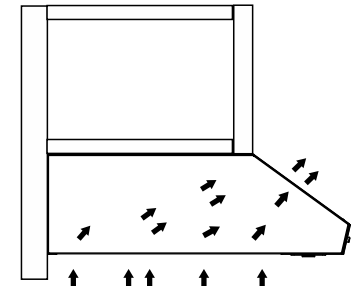

Fig 4
-Decide on the position of the hole for the air outlet: The hole may be in the wall or the ceiling, according to your requirements, but must be in vertical line with your hood. Bear in mind that the hood just expel air through the top opening A (Fig.4).